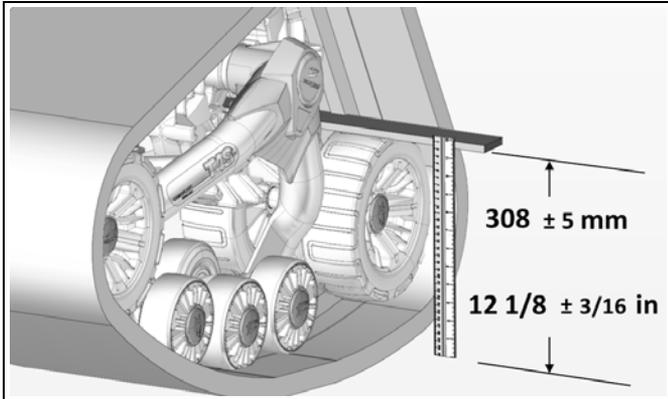

Figure 2
- Position a flat bar on top of rear wheels of front Track System and measure from the ground up to flat bar as shown on Figure 2.